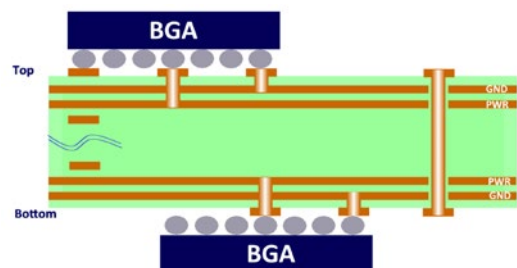

Figure 2: Plane pairs close to BGAs.
1. Closely couple GND/PWR planes on layers 2 and 3 and the second and third layers from the bottom (Figure 2). This lowers the AC impedance of the PDN and provides low inductance power to the devices.